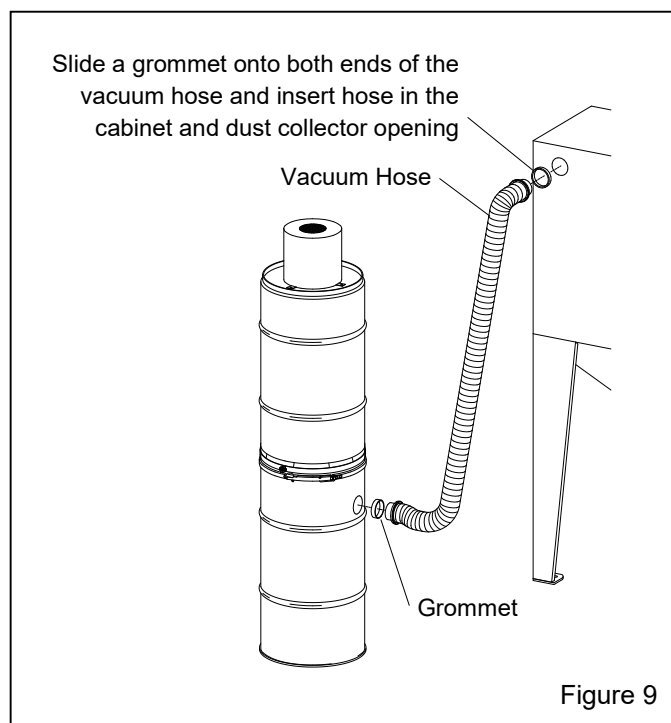

Figure 9
**2.6.1** Make sure a vacuum hose grommet is installed on both ends of the vacuum hose and insert the hose into the opening in the back of the cabinet and side of the dust collector as shown in Figure 9.